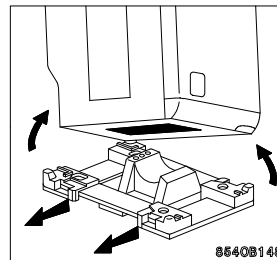

Fig. 1
- Unpack the appliance. Tilt the appliance backwards. Give to one of the back corners a quarter turn. The appliance comes free naturally out the polystyrene basis. Take away this basis (fig. 1).